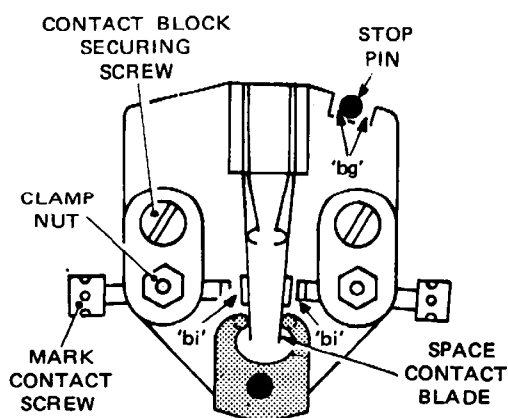

Fig. 4.61 CONTACT BLOCK
- 69.1 Measure the gap between each side of the stop pin and the contact block slot (dimensions 'bg' of Fig. 4.61), and check that these do not differ by more than 0.004 inch.
- 71.1 Check that the gap between each contact screw and blade contact (dimension 'bi' of Fig. 4.61) is 0.003–0.004 inch.